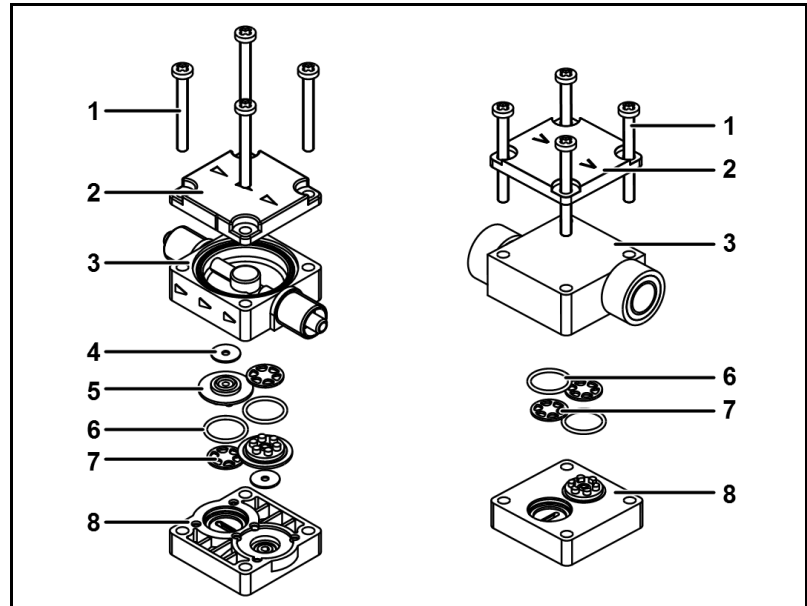

Fig. 57: Head, KT, TT
- Pull apart the cover plate (2), connecting plate (3) and spacer plate (8).
- Carefully remove the valve seats (5), remove sealing washers (4) (not present in FT head, see Fig. 57 at right), O rings (6) and valve disk (7).